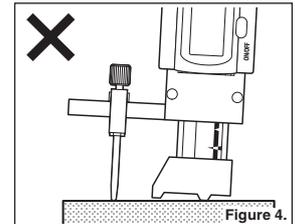

Figure 4.
- To prevent error, make sure the Base is not tilted when making measurements. (Figure 4.)